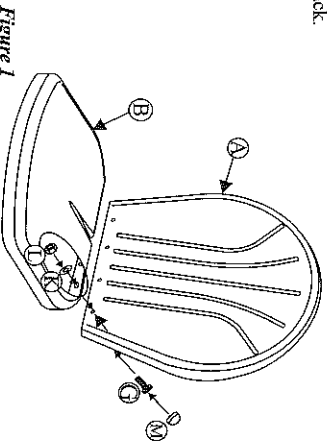

Figure 1
Step 2: Place the glider seat(B) on a solid flat surface. Position the glider back (A) as shown in *Figure 1* so that the holes in the glider back align with the holes in the glider seat. Insert 1/4" x 1.5mm bolts (G) through the holes of the glider back (A) and then through the holes in the glider seat(B). Add a 1/4" nut (L) to the end of each bolt. Tighten using hex wrench(P) and hex bolt driver (Q). **Do not over tighten.** Cover nuts and bolts with covers(M&N). Repeat entire procedure for remaining glider seat and glider back.